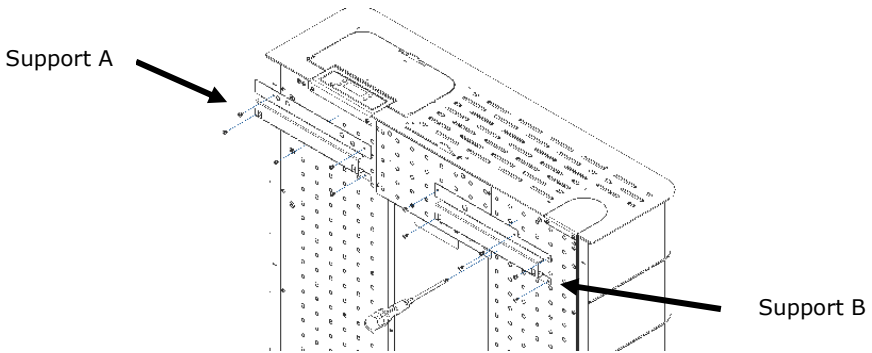

Figure 89 – Fixing the supports A and B
a) Secure the support A and B to the unit using 11 A screws, as illustrated in Figure 89 (please pay attention to the position of the support brackets).